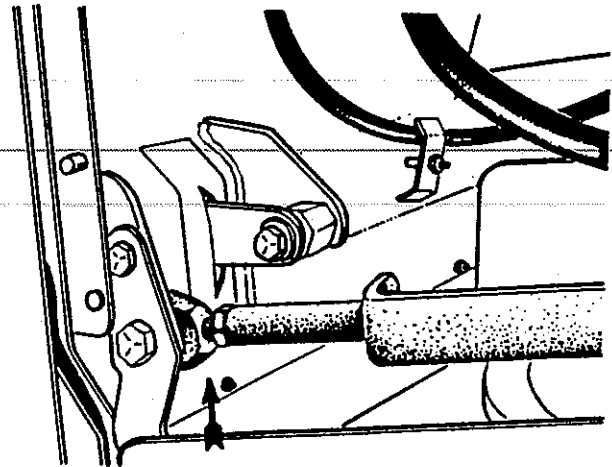

Figure 4-37. Scrub Head Adjustment
3. Open the access doors and remove the bolt which attaches the right and left lift arm assembly to the frame on each side, see figure 4-37. The scrub brushes should now be lying flat on the floor. If not, lower the scrubhead until the brushes contact the floor at all points.